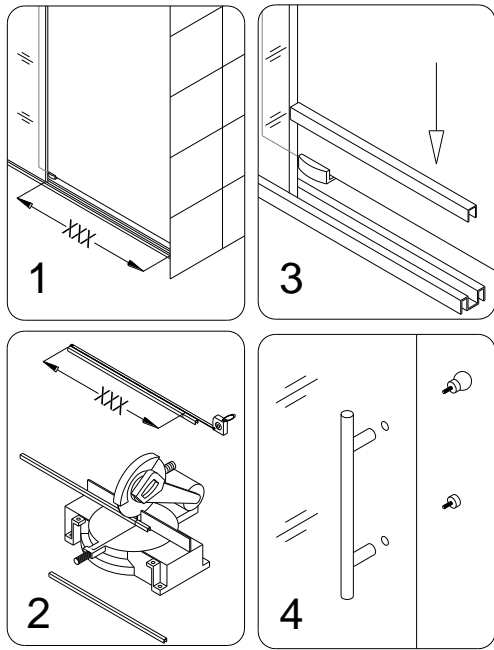

Fig. 13
9. Refer to Step 3 to cut the **Threshold cover (14)** to size if necessary. Push the **Threshold cover** onto the threshold when the door is in the opened position. Mount the **Handle (06)** to the door. See fig. 13 for details.